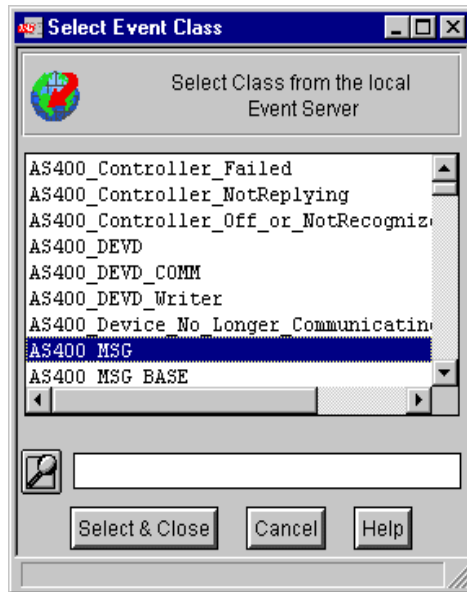

Figure 293. Select Event Class screen
5. In the AS/400 Messages console, select **New** from the Automated Tasks menu to display the Select Event Class screen shown in Figure 293 on page 460.